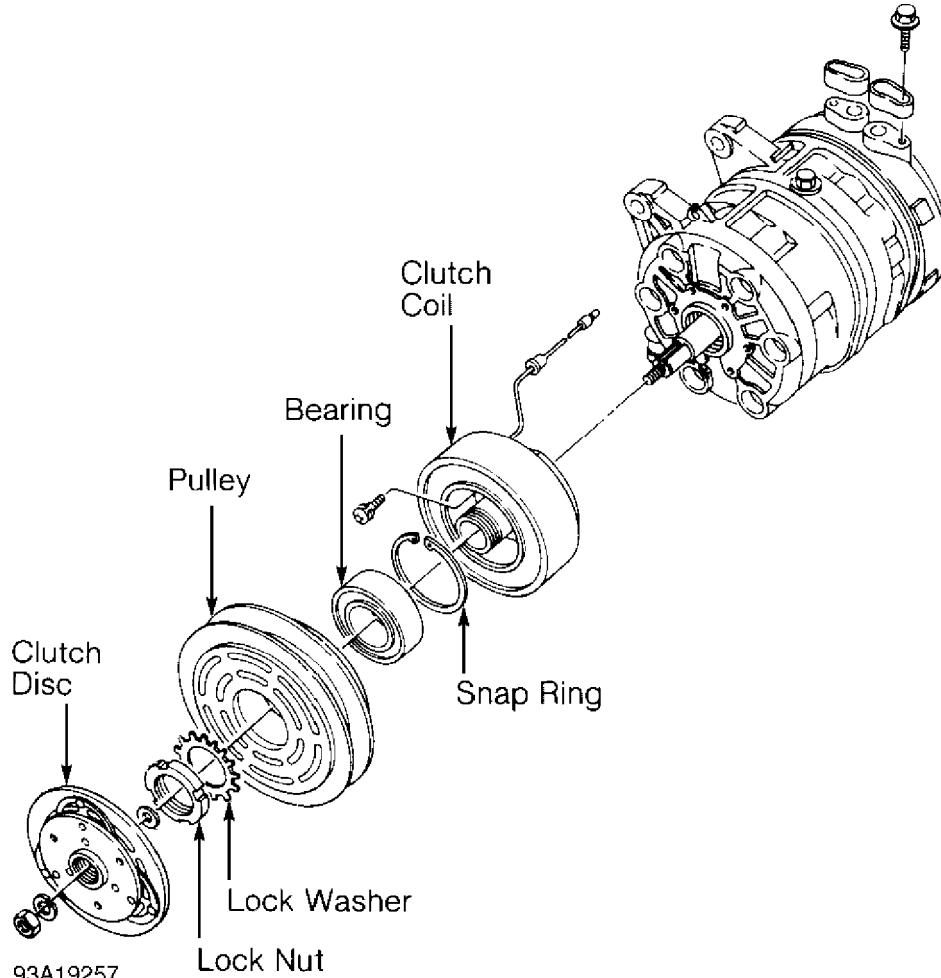

Fig. 21: Exploded View Of Compressor (Zexel DKS-16H 6-Cylinder)
2) Bend lock washer away from lock nut. See Fig. 21. Remove lock nut with Wrench (J-37882). Remove pulley by hand or, if difficult to remove, use Pilot (J-26720-A) and universal puller. Remove snap ring, bearing, and clutch coil as necessary.